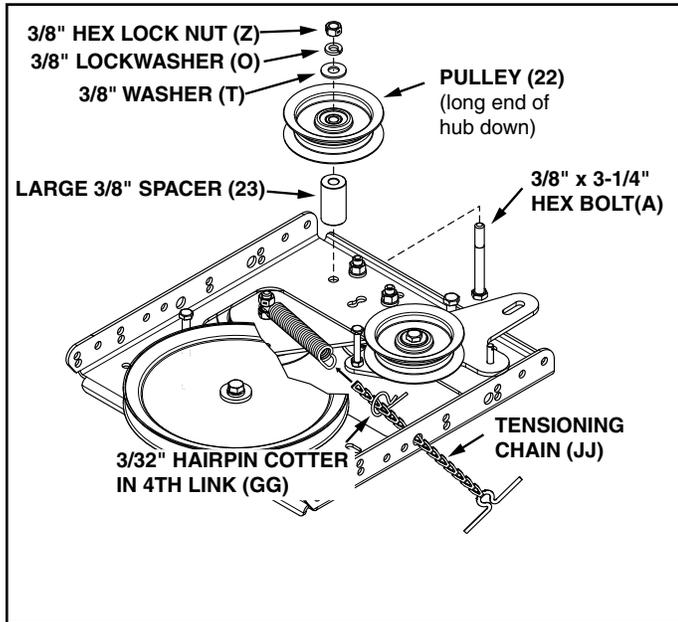

FIGURE 7
STEP 7: (SEE FIGURE 7)
- Attach the cable bracket (6) to the double hole in the clutch frame as shown, using a 5/16" x 3/4" carriage bolt (D) and a 5/16" nylock nut (Y). Place the bolt in the front hole of the bracket and in the end of the hole closest to the pulley. **Do not tighten yet.**